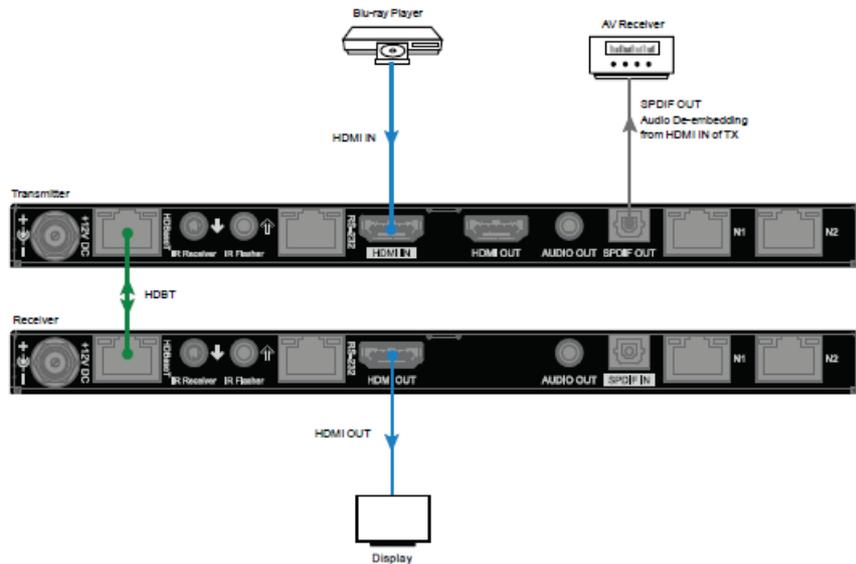

Figure 3: To extract TX HDMI IN audio
- Set Pin1 of a transmitter (TX) to “down”, HDMI de-embed mode. HDMI IN embedded audio will be extracted and outputs via SPDIF OUT. See Figure 3. HDMI extraction audio supports up to 5.1CH Dolby&DTS or 2CH PCM.